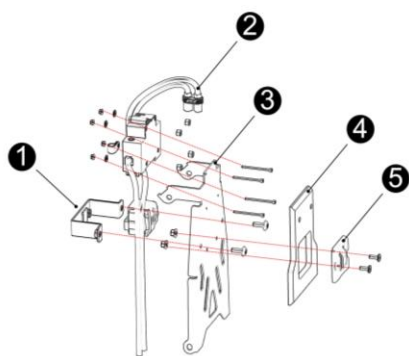

Fig 41
11.12 Disassemble air switch combination (see Fig 41)